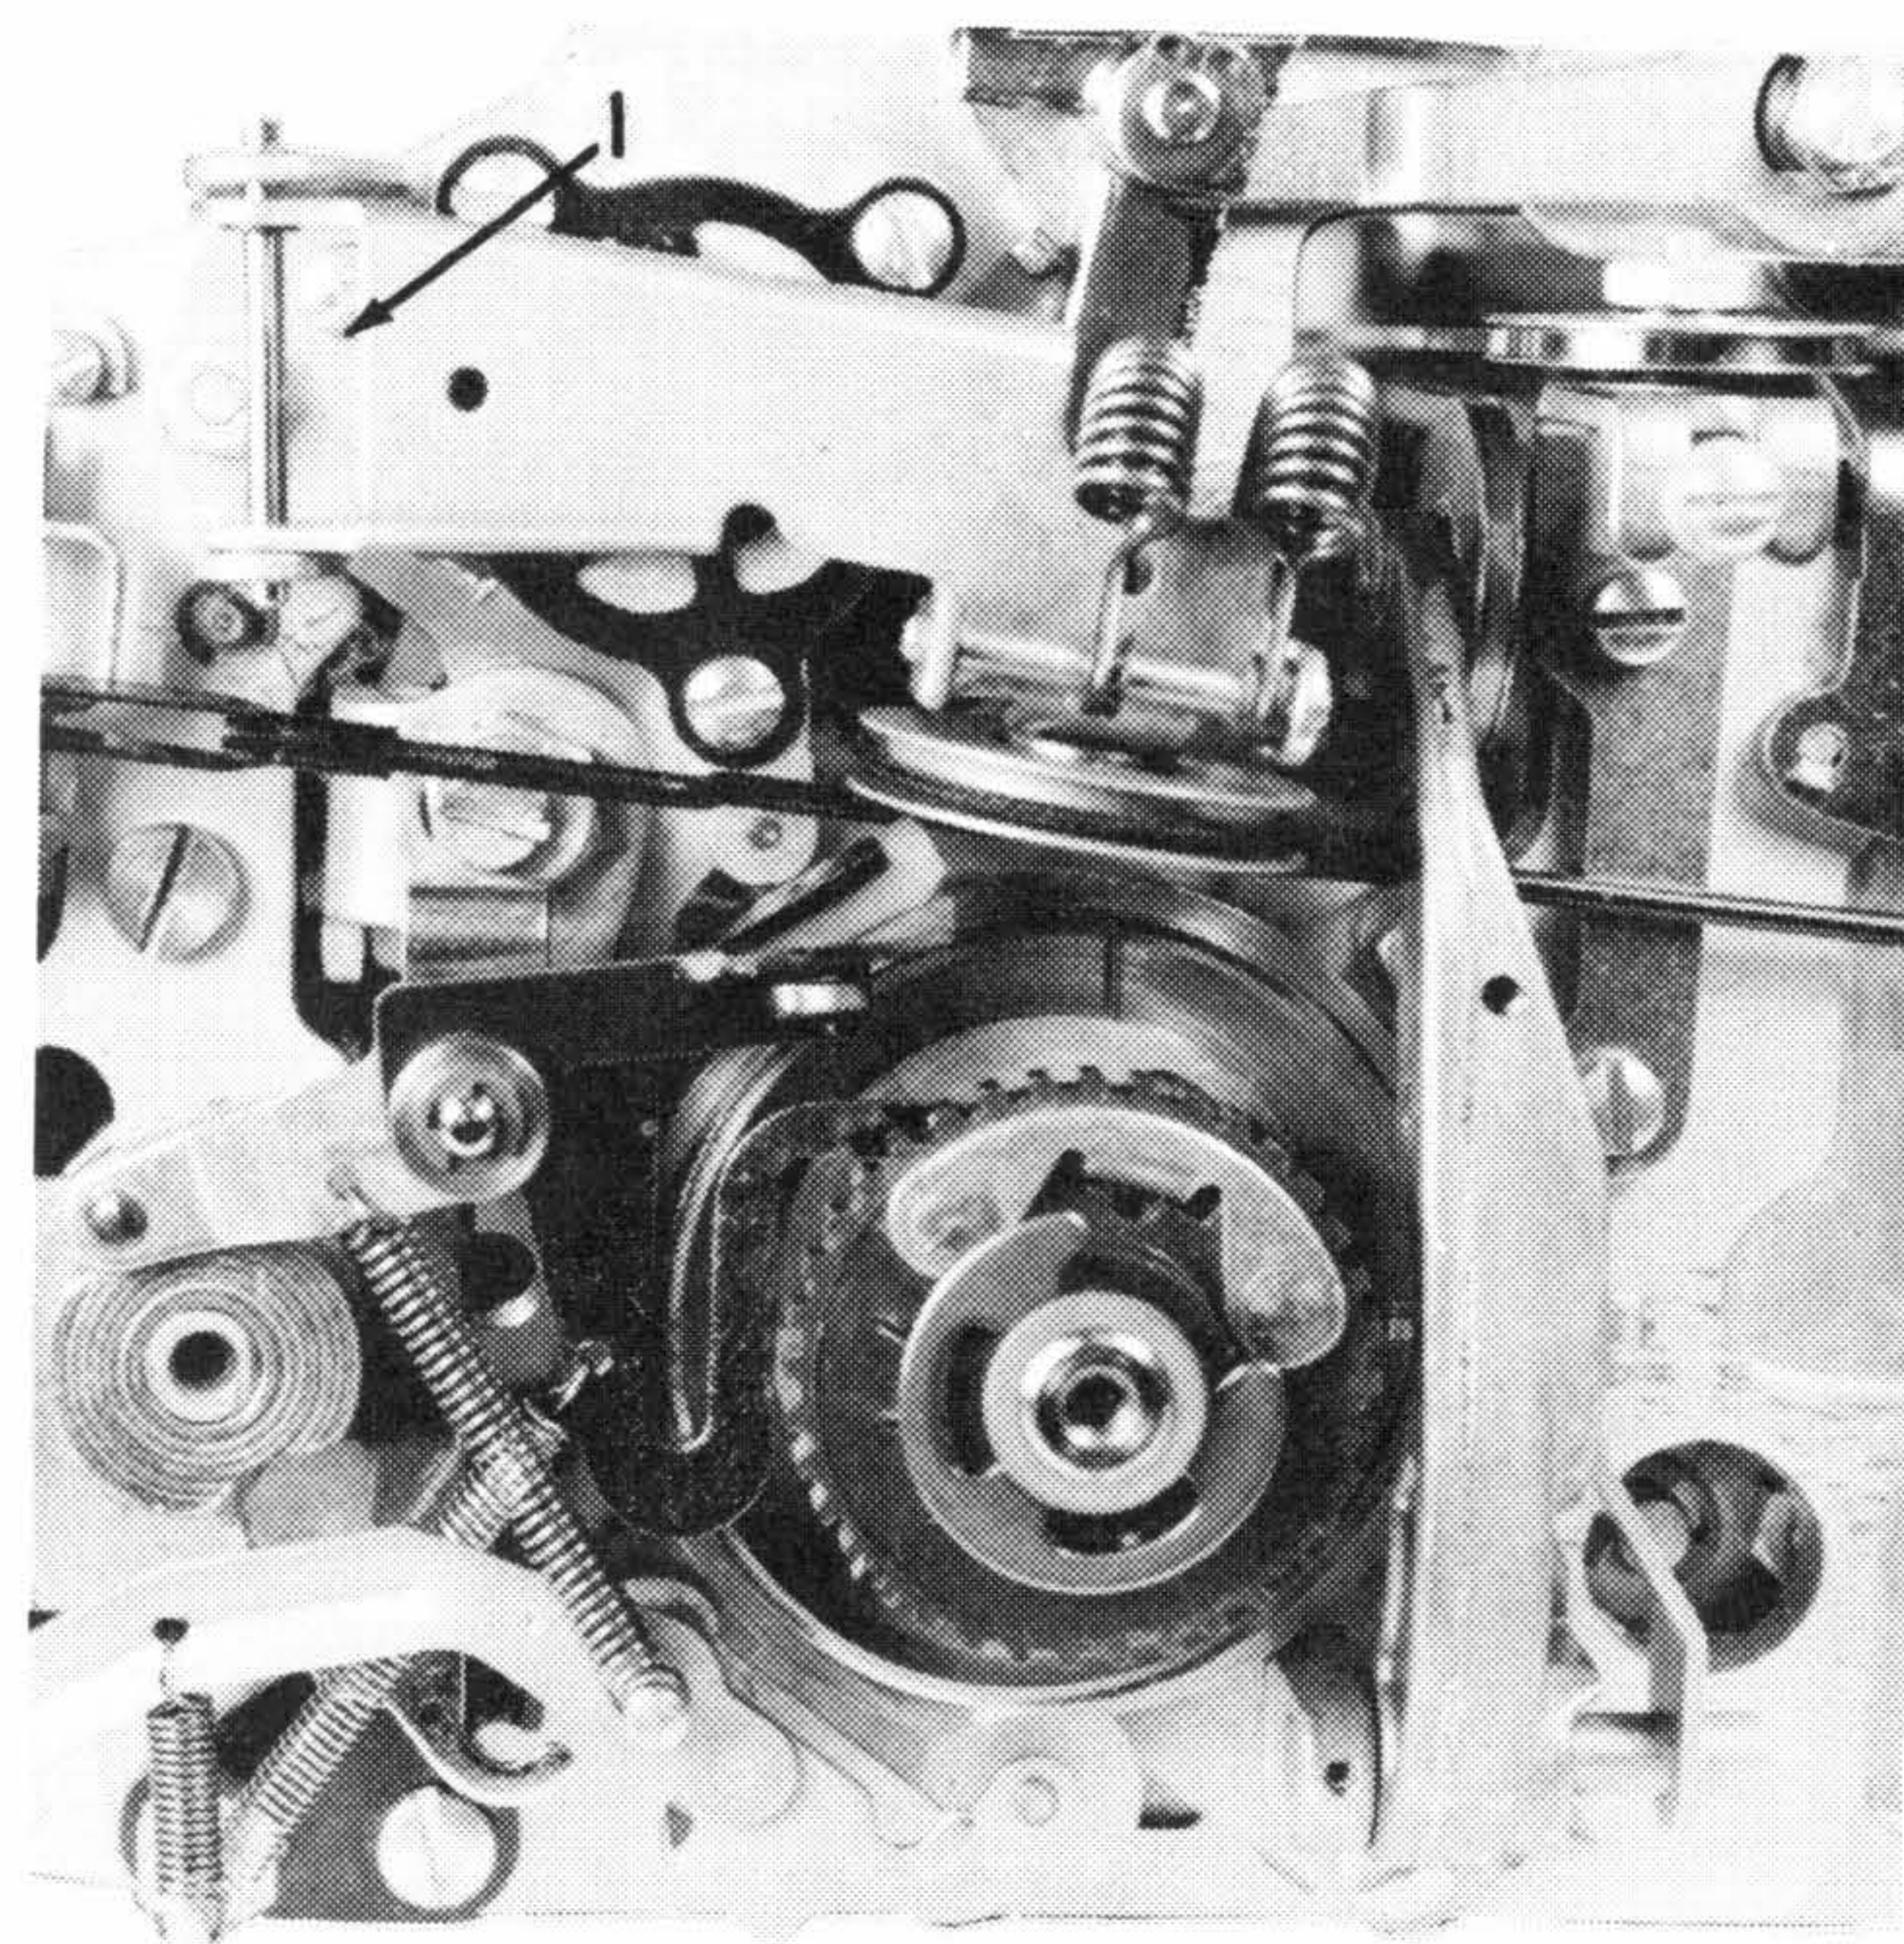

Figure 59. Carrier and Rocker Removal
10. Remove transport spring bracket screw (#1, Figure 59).